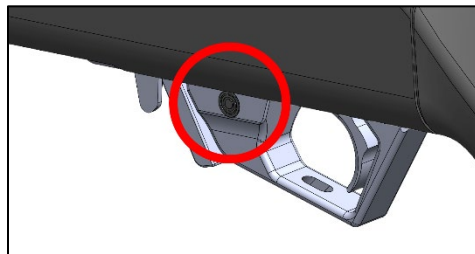

Figure 2 – SAFETY ON/FULL SAFE
- **FULL SAFE** - When the action is cocked (cocking handle pulled fully rearward and either locked open or allowed to snap forward), push the manual safety button fully to the right side of the firearm to put it in “ON” or “FULL SAFE” position – Figure 2. The red band on the safety button will be hidden from view. The safety button should be fully flush on the left side of the trigger guard.